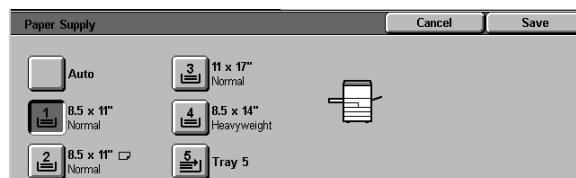

Figure 11: Paper Supply screen
- Touch **More...** to see additional options, as illustrated in Figure 11.